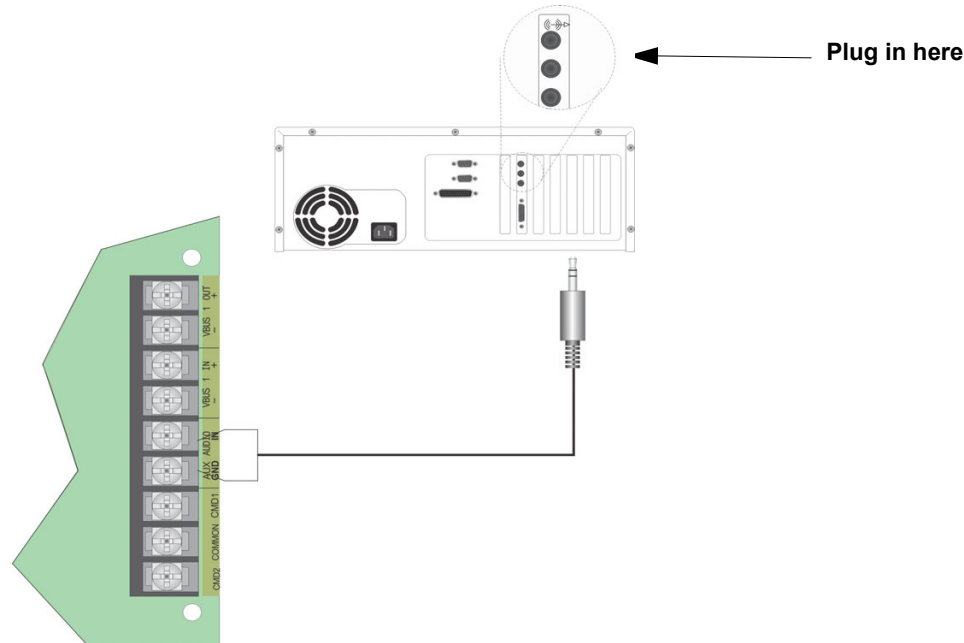

Figure 11.5 AUX Audio Connection for Recording
1. Wire a speaker cable with 1/8" mini plug to Aux AUDIO GND and IN terminals. Refer to Figure 11.5.
2. Plug the mini plug into the Line Out/Headphone jack on a PC or Laptop. See Figure 11.5.